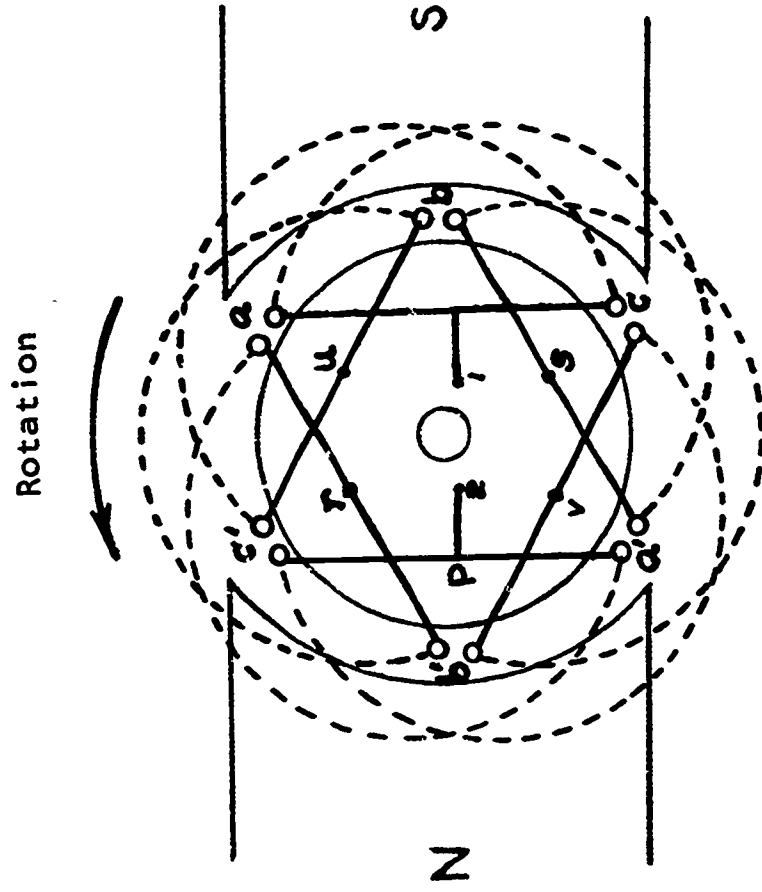
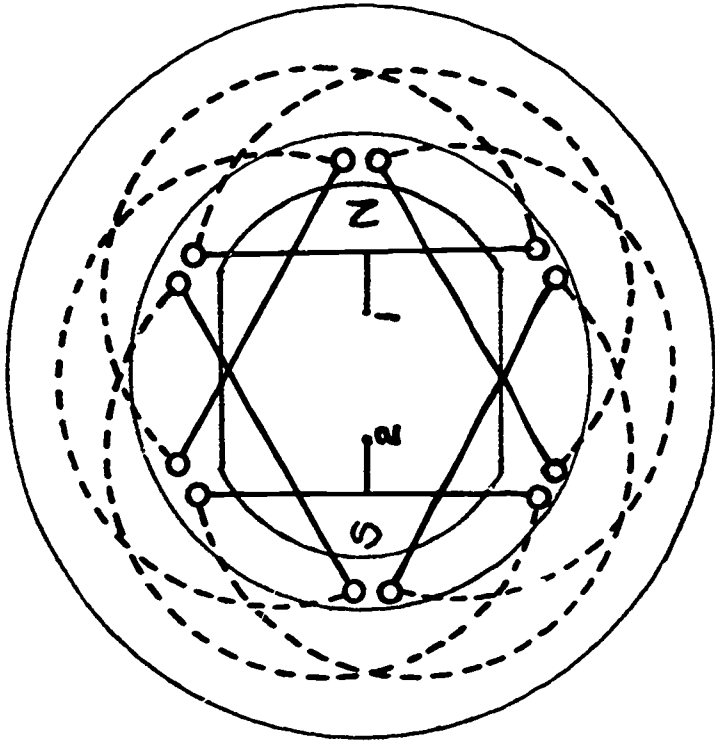
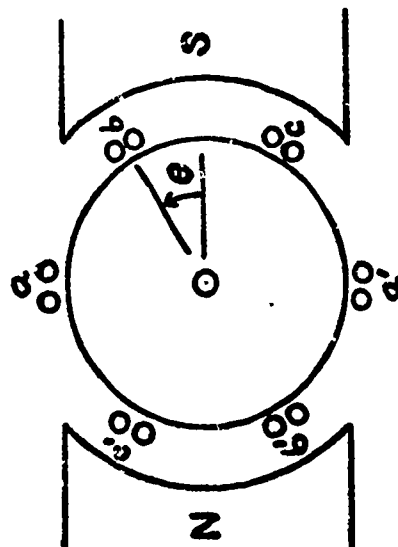

Figure 39.
Figure 41.
Figure 44.
The rotor, complete with the winding just described and shown in Fig. 39, is called an armature. Up to this point, we have two conclusions:
It follows that if a resistor R is connected between these points, a current I will flow, since this resistor will complete a circuit external to the armature in which an emf is acting. Draw in this resistor on Fig. 39 and along side it draw an arrow to represent the instantaneous direction of I, for the  $\vec{B}$ , direction of rotation, and position of the armature shown.
To avoid the practical difficulty of having the load attached to the rotor, slip rings can be used as shown in Fig. 40, to give a practical form of a-c generator. However, sliding contacts are troublesome, particularly when large currents must be carried by the slip rings. Accordingly, the arrangement shown in Fig. 41 represents standard design practice. The windings are identical with Fig. 39, but they are on a stationary iron ring, while a two-pole magnet rotates inside.
What should be the direction of rotation of the magnet in order to duplicate the situation portrayed in Fig. 39?
The d-c current required for the magnet will be very much smaller than the a-c load current. Thus, in Fig. 41 the slip rings can be much smaller.
Compared with Figs. 39 and 41, the voltage obtained with  $N$  turn coils will be  $N$  times greater.
- (1) There are two parallel paths through the armature, from terminal to terminal.
- (2) The winding is symmetrical with respect to the rotor axis. For example, in Fig. 39 on page 94 the external terminals could be connected between points  $r$  and  $s$ , or between  $u$  and  $v$ . We shall make use of the symmetry property when we return to a consideration of d-c machines.
If wound like Fig. 39,
e is into paper, in Fig. 44.
Now we shall consider the analytical problem of determining how the emf of the complete winding varies as the rotor changes position. We are still dealing with Fig. 39, but its essential features are repeated in Fig. 44, with the rotor moved counter-clockwise through the angle  $\theta$ , compared with the earlier figure. We shall determine how  $e_{12}$  varies with this angle.
You have been referred to this page for a proof that in Fig. 39 (or its derived form, Fig. 44),